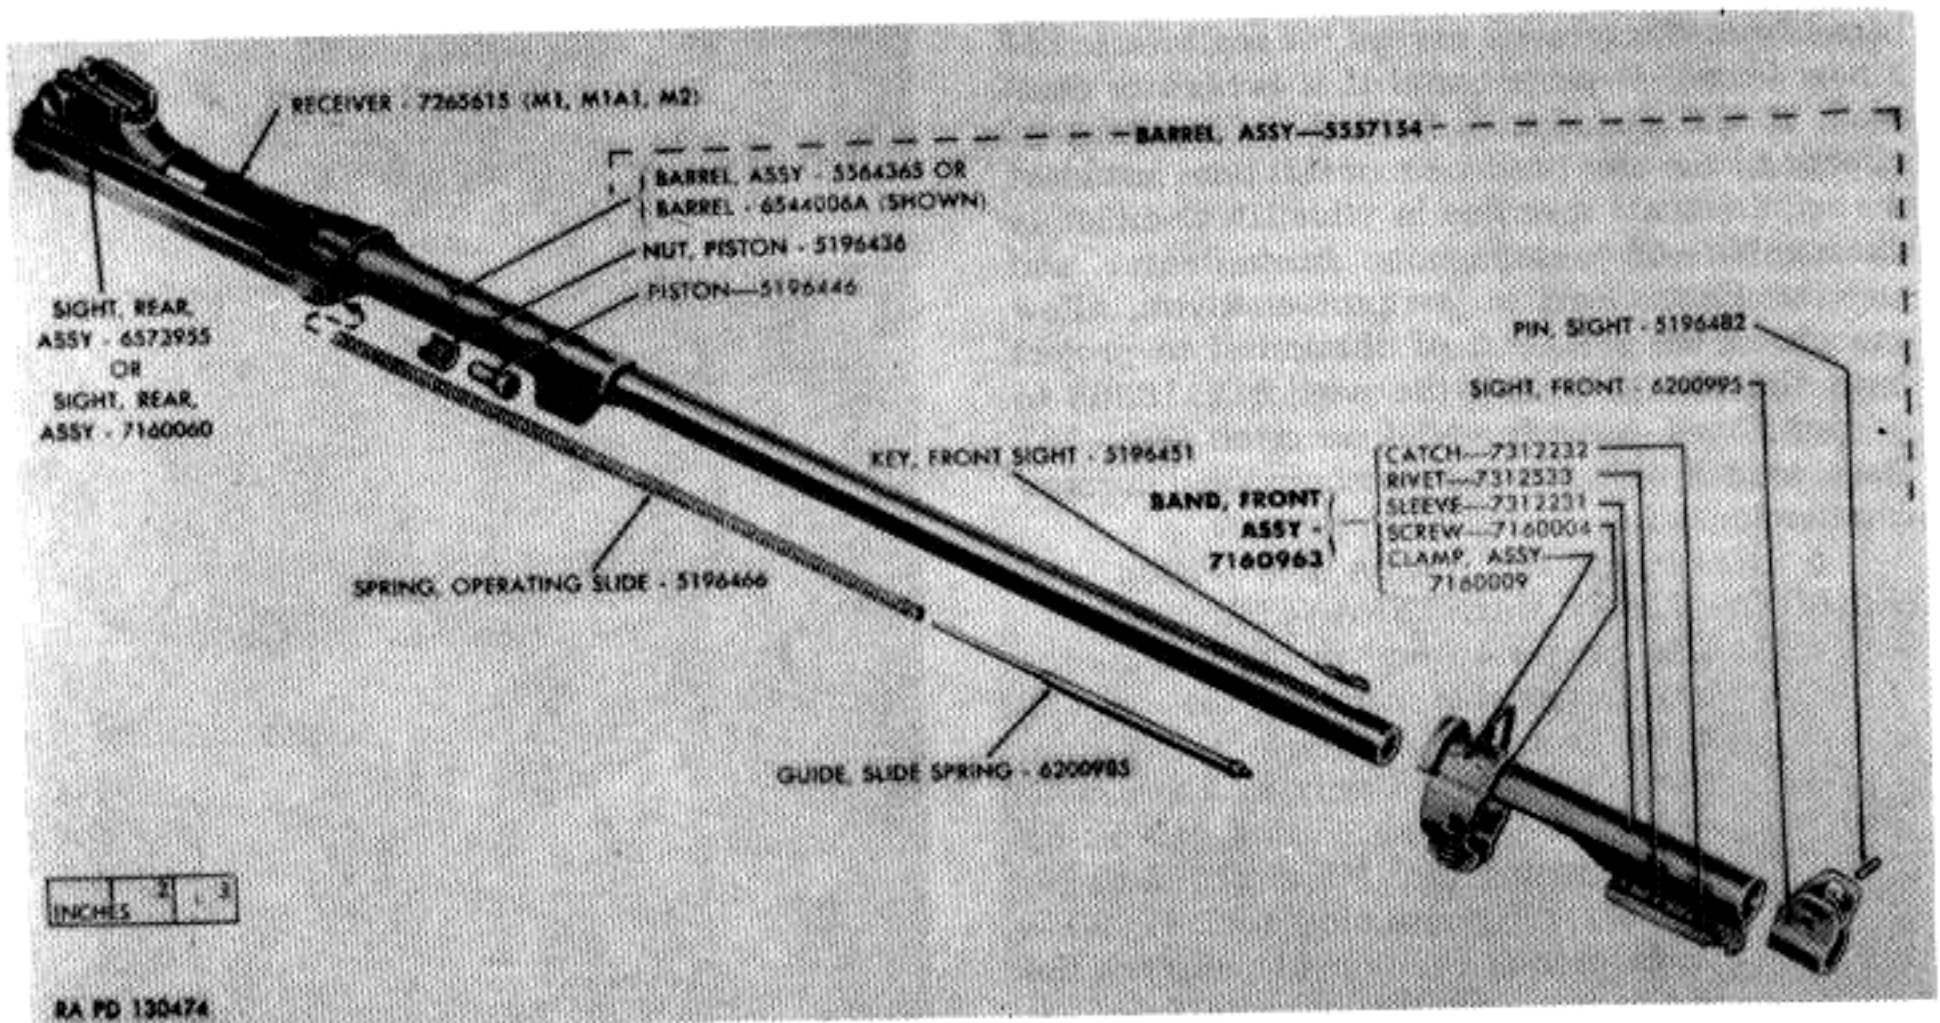
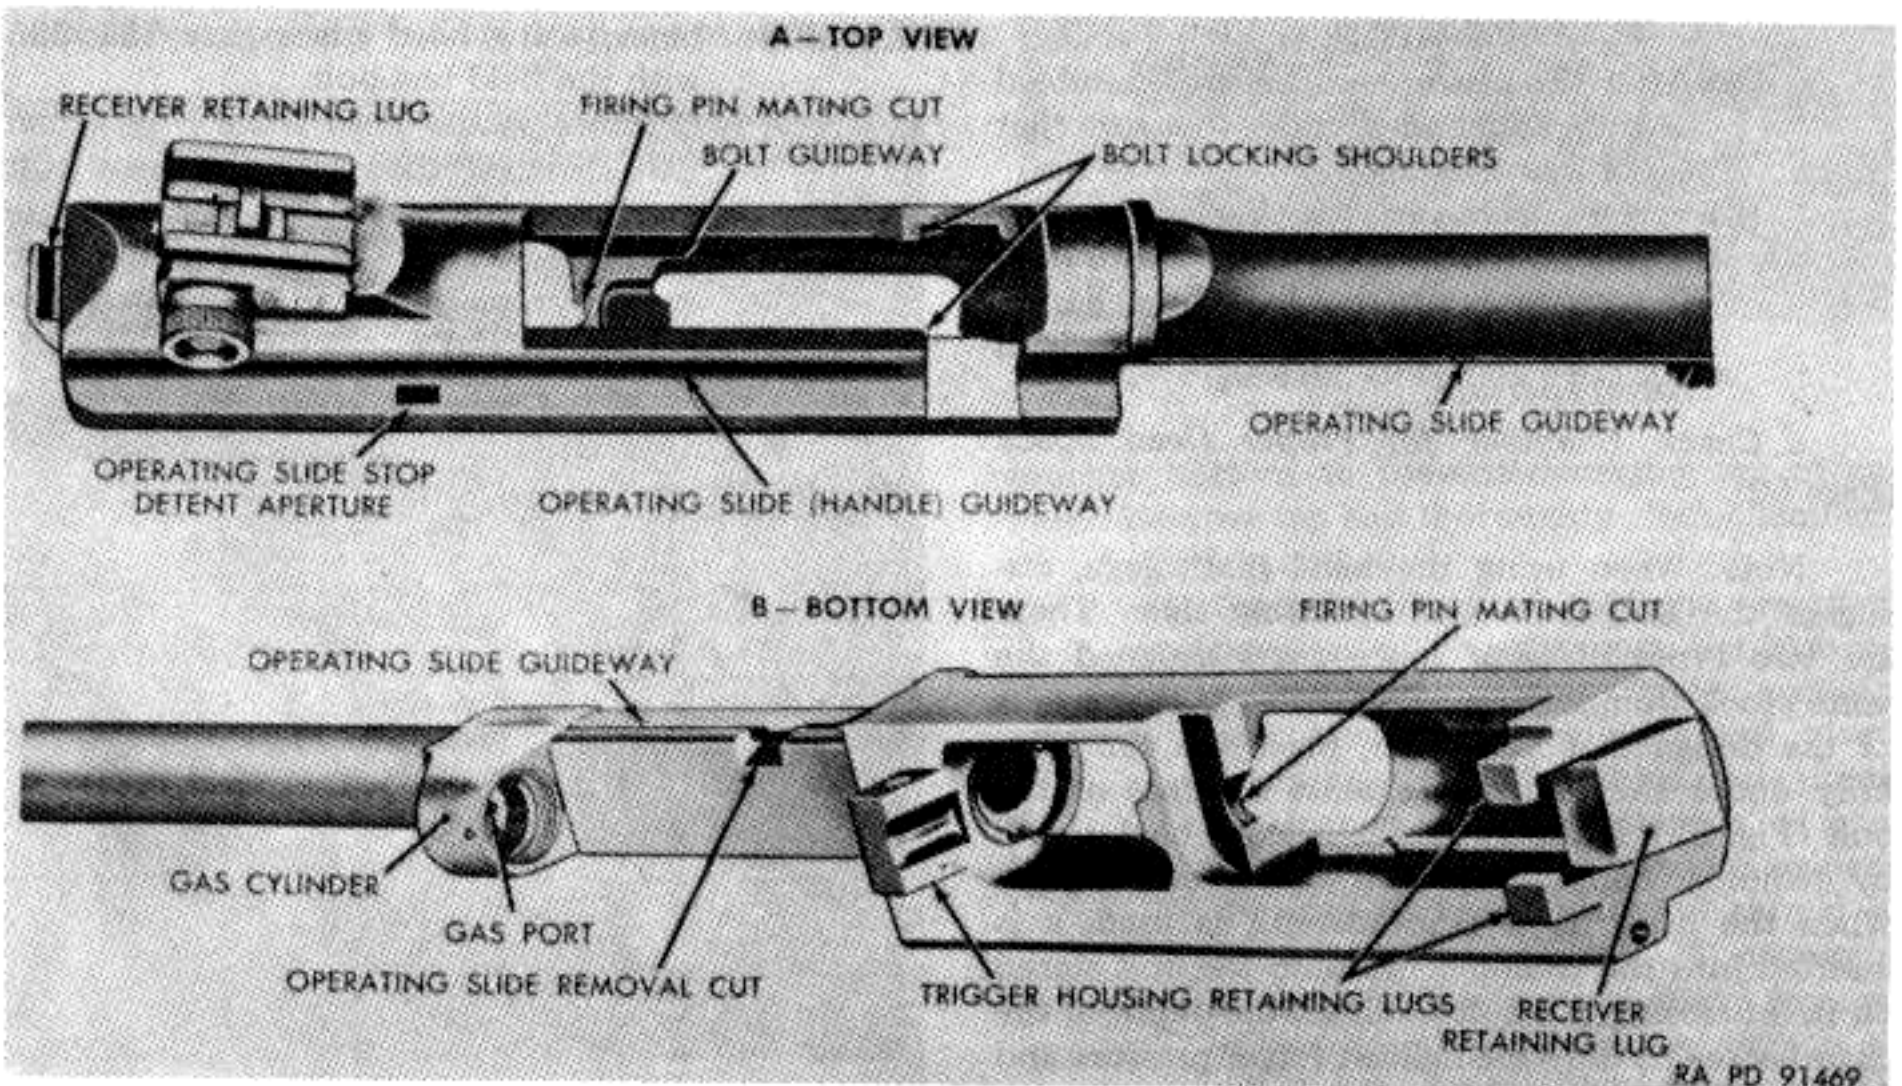

Figure 74. Barrel and receiver group M1, M1A1, M2 carbines.
Figure 78. Barrel and receiver group — points of inspection.
a. Receiver (Figs. 74 and 75).
- (1) Inspect operating slide spring well for rust or foreign matter. Visually inspect receiver for break-through of the operating slide spring hole. This break-through occurred in the original manufacture of some receivers because of the drill running out through either the bottom or right-hand exterior surfaces. If the forward end of the break-through is 3 inches or more from the front end of the receiver, it is acceptable; otherwise, it must be rejected (DEPOT MAINTENANCE ONLY). Any sharp or feather edges around this break-through are to be removed.
- (2) Inspect receiver under "black light" (Magnaglo or approved equal) for cracks in the area around the bolt locking slot at the right hand side and at the front and rear trigger housing retaining lugs (DEPOT MAINTENANCE ONLY). Receivers having cracks extending in both directions around a corner must be rejected.
- (3) Visually inspect condition of firing pin retracting cam mating cut in the bridge of receiver (Fig. 78). This cam was cut to an angle of 33 degrees in the earlier manufacture of receivers and later to 45 degrees. Both are acceptable if in good condition.
- (4) Visually inspect trigger housing retaining pinhole in the receiver. If out-of-roundness is apparent, reject the receiver (DEPOT MAINTENANCE ONLY).
- (5) Inspect the bullet ramp in the receiver to assure it is clean and smooth for proper feeding of the ammunition. Burrs and sharp edges should be removed by careful polishing with fine emery cloth. The lower edge of the
- (6) Inspect receiver for looseness with barrel, deformation, rust and burrs. If receiver is disassembled from barrel, inspect for worn or crossed threads in barrel aperture (DEPOT MAINTENANCE ONLY).
- (7) Inspect bolt guideway and locking shoulders for wear, burrs, cracks, and foreign matter. Inspect receiver retaining lug on rear end (Figs. 78 and 104) for wear, burrs, and looseness with recoil plate when assembled to stock.
- (8) Inspect operating slide guideway on right side for wear, burrs, and foreign matter, and operating slide removal cut for wear and burrs. Inspect operating slide stop detent aperture for wear, burrs, and foreign matter. Forward surface of aperture should be at a sharp right angle to receiver, and with a clean edge to facilitate retention of stop, and rear face smooth and sloping to facilitate camming. Inspect the rear inside face of receiver for foreign matter.
- (1) The muzzle of all barrels must be counterbored (Fig. 78) during rebuild to remove tool marks, nicks,